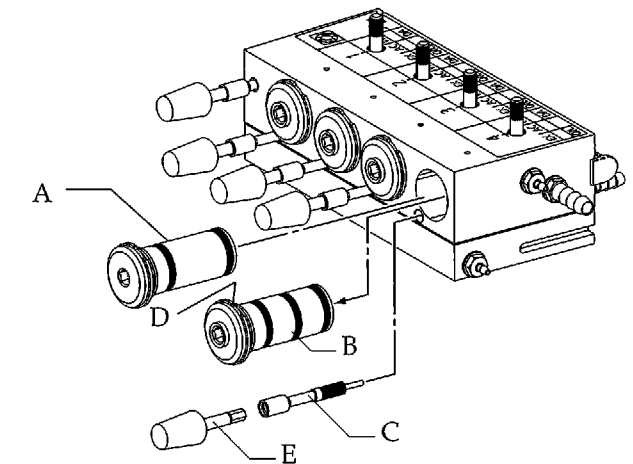

Figure 92. Switching out the wet position with a dry position. (A) dry cartridge, (B) wet cartridge, (C) adjustment stem; (D) cartridge ring; (E) adjustment key
3. Remove the old cartridge and screw in the new cartridge, but do not tighten (see Figure 92).